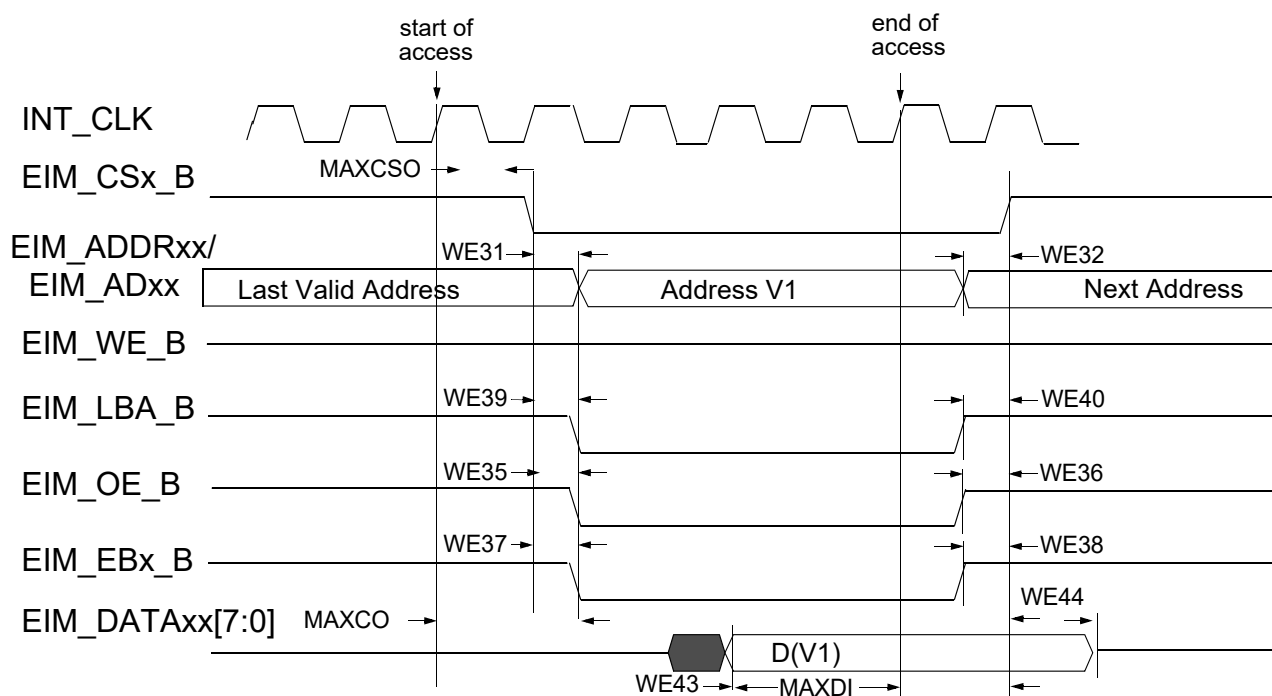
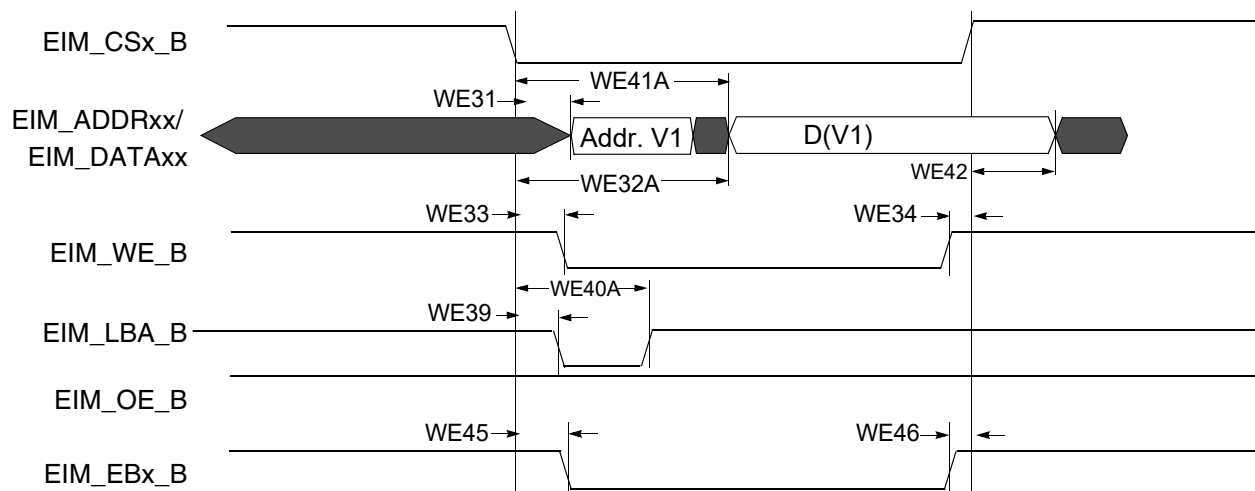
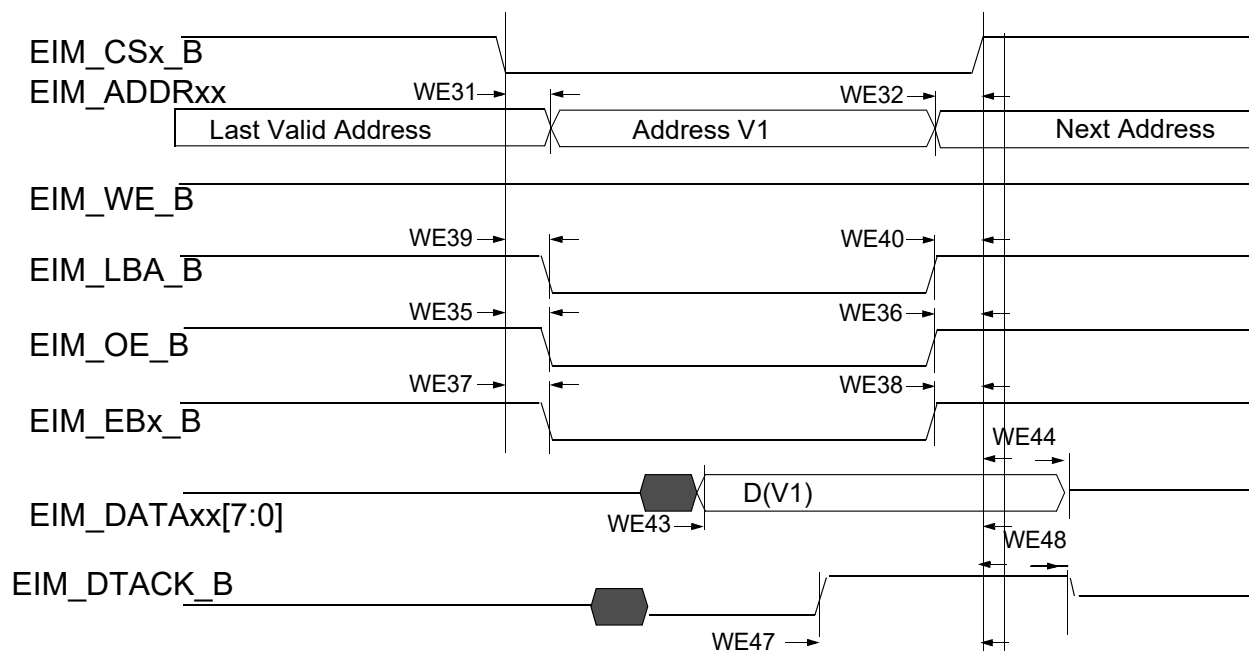

Figure 19. Asynchronous Memory Read Access (RWSC = 5)
Figure 22. Asynchronous A/D Muxed Write Access
Figure 23. DTACK Mode Read Access (DAP=0)
Figure 19 through Figure 23, and Table 43 help you determine timing parameters relative to the chip select (CS) state for asynchronous and DTACK EIM accesses with corresponding EIM bit fields and the timing parameters mentioned above.
Asynchronous read & write access length in cycles may vary from what is shown in Figure 19 through Figure 22 as RWSC, OEN and CSN is configured differently. See the *i.MX 6Solo/6DualLite Reference Manual (IMX6SDLRM)* for the EIM programming model.